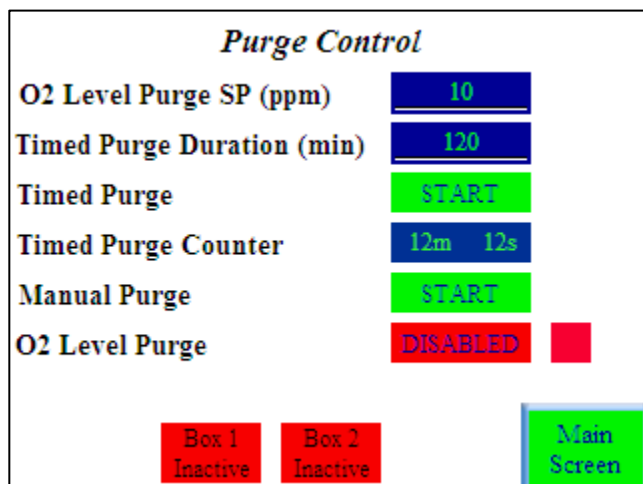

Figure 54 Purge Control screen
**Press for Box 1** – Selects the module labeled Box 1 to be purged (See “Purge Control” on page 31) (Purge control – refer to Purge Control Screen in Figure 54 below) Box 1 Active button will be Green indicating that it will be purged. Box 2 will be isolated.
**Press for Box 2** – Selects the module labeled Box 2 to be purged (See “Purge Control” on page 31) (Purge control – refer to Purge Control Screen in Figure 54 below) Box 2 Active button will be Green indicating that it will be purged. Box 1 will be isolated